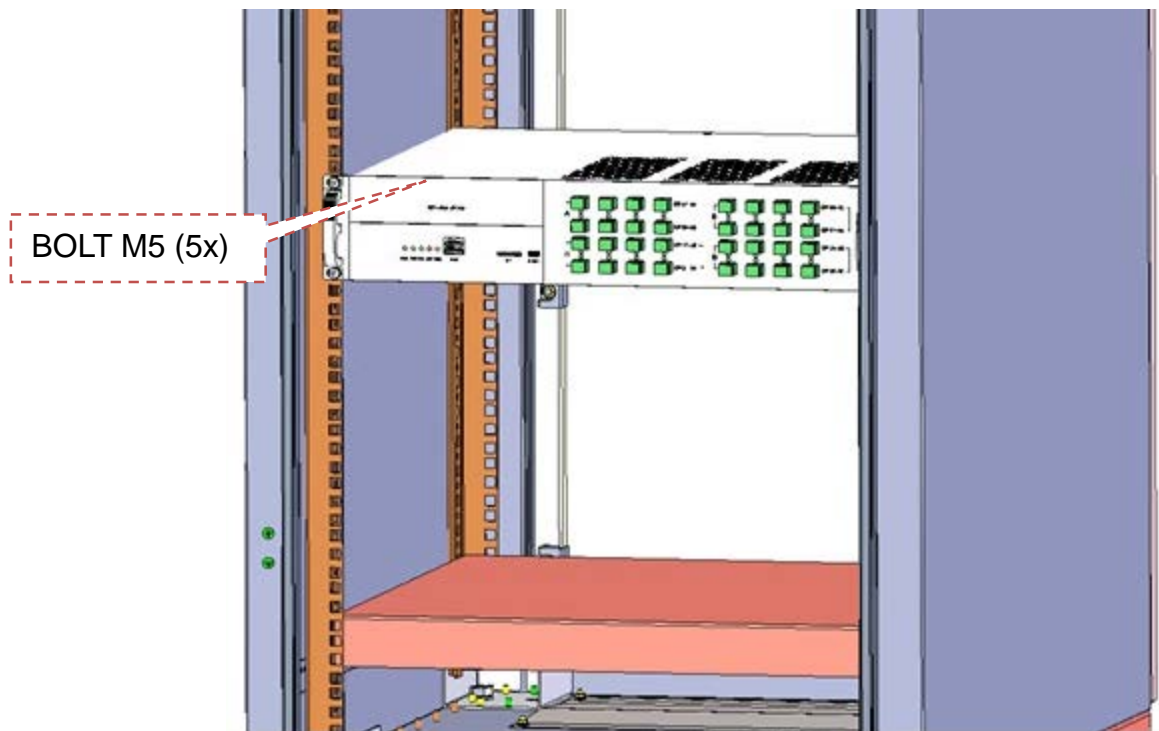

Figure 4-8 Use screw to mount IM2U
3. Use screw to mount IM2U, as shown in Figure 4-8.